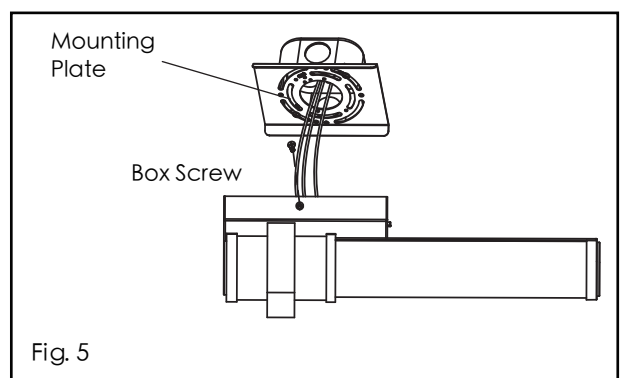

Fig. 5
6. Secure decorative back plate with screws at the top and the bottom to the mounting plate. (See Fig. 5)